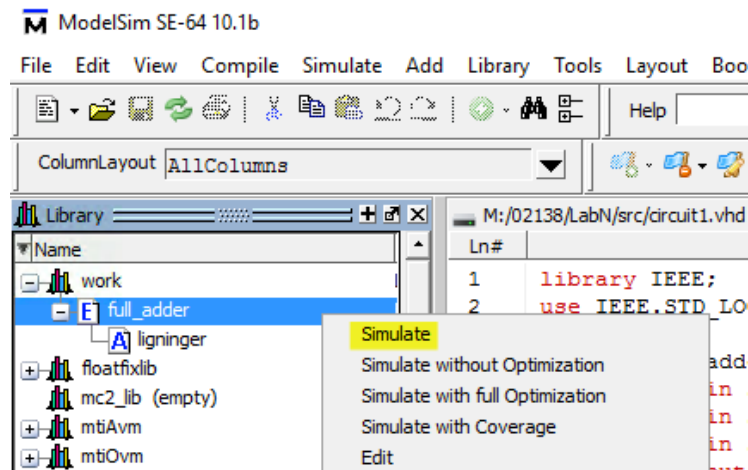

Figure 9. The full adder component is placed in the work library after compilation.
- After your entity has been compiled, it is added to the “work” library. You can check this by clicking on the “Library” tab in the “workspace” window as shown in Figure 9. You can start the simulation of only one entity at a time by double clicking on it (or by right clicking on it and selecting Simulate from the popup menu). In our case we shall simulate the entity “full_adder”.